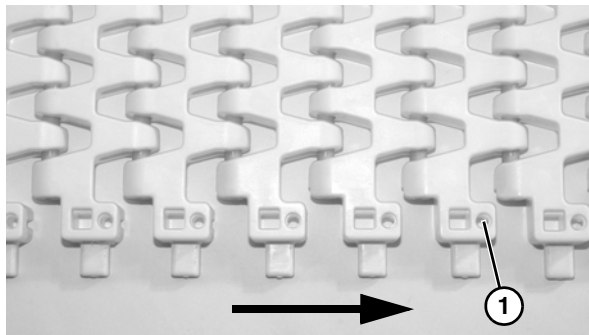

Figure 10
Ensure the belt is running in the correct direction, with hole (Figure 10, item 1) towards conveyor motor.